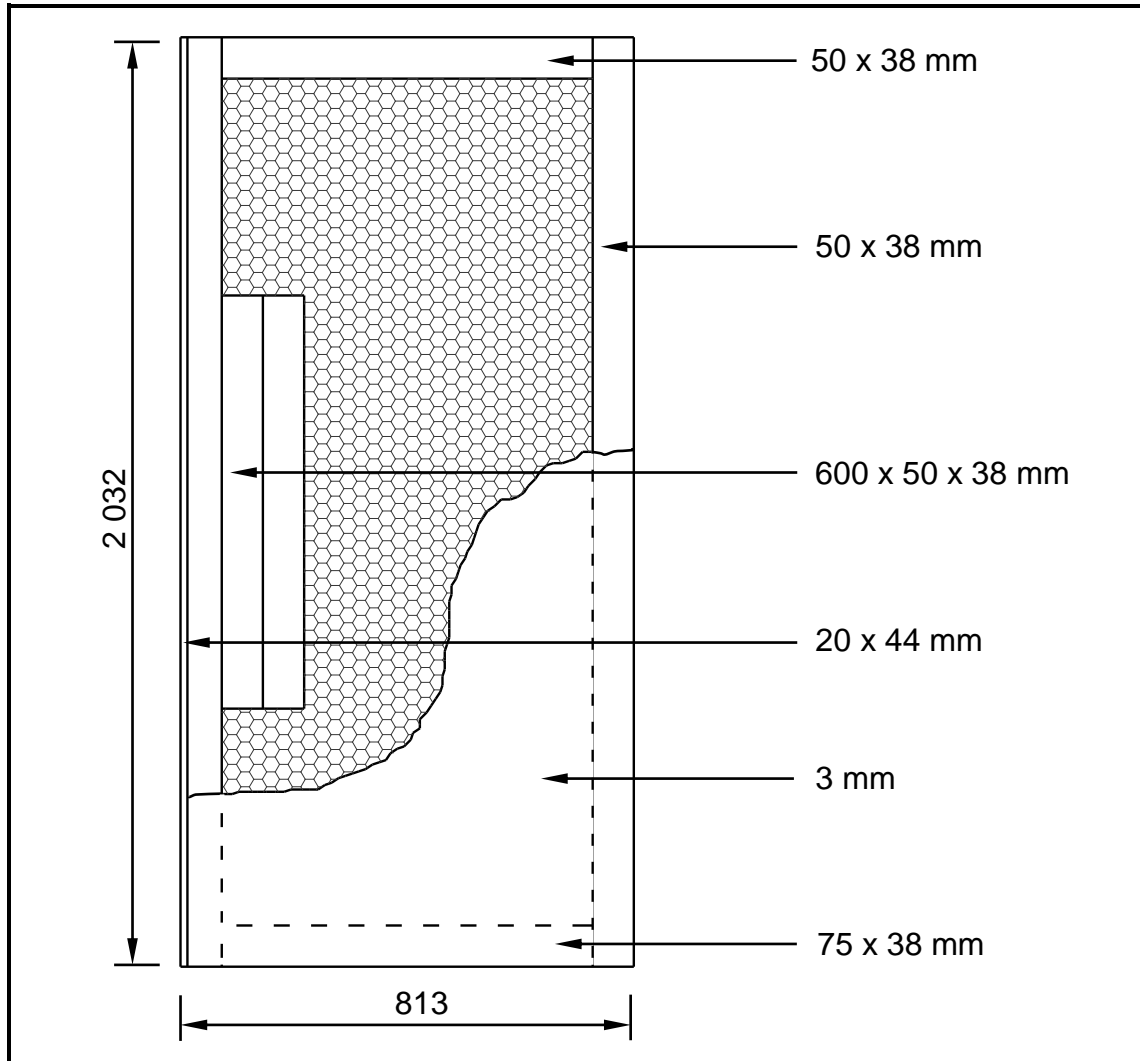

FIGURE 4.1
4.1 FIGURE 4.1 below shows the front view of a hollow-core flush panel door. Study the drawing and complete the incomplete cutting list. Write down the answer next to the question number (4.1.1 to 4.1.7) in the ANSWER BOOK.